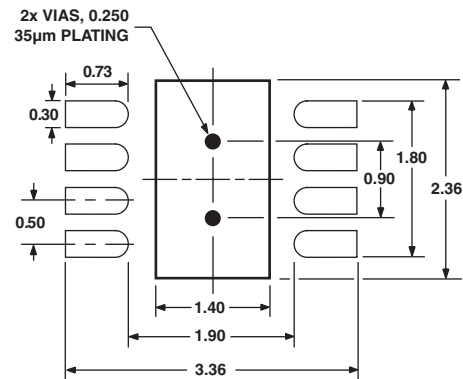

Figure 6. 3 mm x 3 mm LFCSP Pad Pattern (Dimensions shown in millimeters)
1. The pad pattern is given in Figure 6. The pad dimension should be followed closely for reliable solder joints while maintaining reasonable clearances to prevent solder bridging.